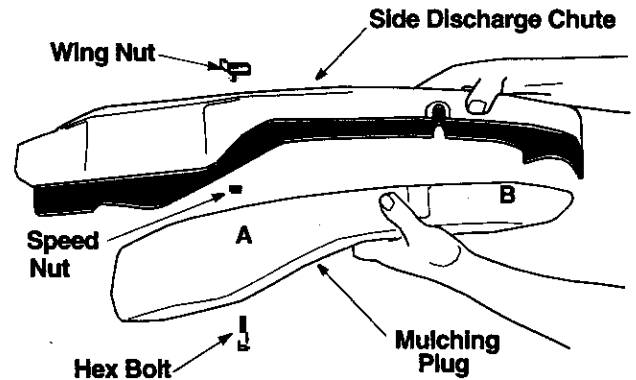

Figure 11
- Insert the plug into the side discharge chute aligning the two slots on the two sides of the side-discharge chute with those on the mulching plug. See Figure 11.